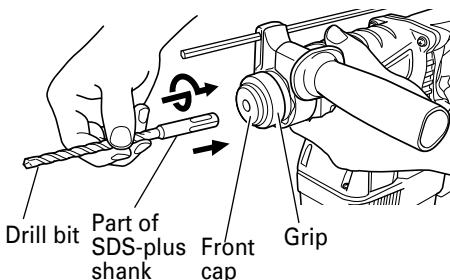

Fig. 7
3. Mounting the drill bit (Fig. 7)
- (1) Clean the shank portion of the drill bit.
- (2) Insert the drill bit in a twisting manner into the tool holder until it latches itself. (Fig. 7)